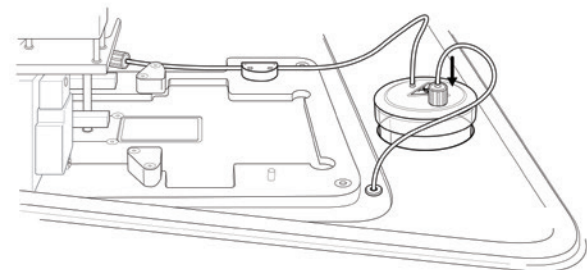

Fig. 16. Attach Genesis System tubing.
- Attach Genesis System tubing to the waste jar outlet (Figure 16).